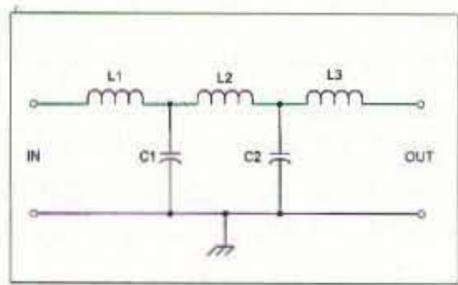

Fig. 13. Low-pass filter.
**Figs. 13 and 14** show the low-pass and high-pass filter circuits, respectively. The low-pass filter passes frequencies below its -3 dB cut-off frequency. Such filters might be used on an LF or VLF receiver to prevent overload from AM BCB stations. In Europe, where both the medium wave (0.520–1.710 MHz) and LF band (145–280 kHz) are used for AM broadcasting, the problem is especially severe. Such cases may require two filters.
These filters are designed for 50-ohm input and output impedances, which is the standard impedance for most RF systems. The values for the components in **Figs. 13 and 14** are found by dividing the following constants by the desired cut-off frequency in megahertz (MHz). For the low-pass filter (**Fig. 13**): L1